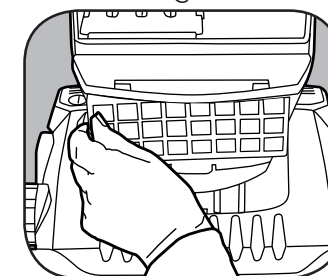

Fig. 3
2. Remove the filter from the front of the vacuum (Fig. 3).